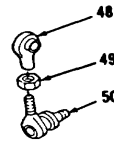

Figure 5-9.
12. Install nut (49) and rod end (48) on rod (50, Figure 5-9).